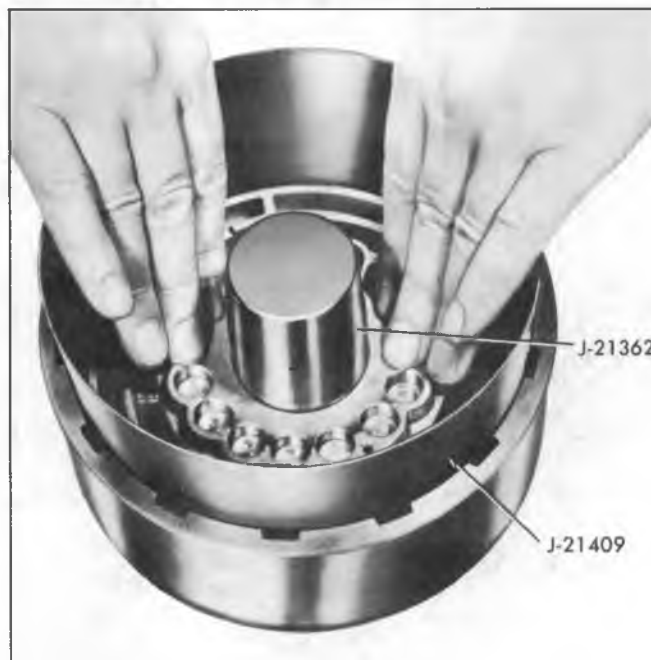

Fig. 88T—Installing Direct Clutch Piston
4. Place seal protectors, Tools J-21362 Inner, J-21409 Outer, over hub and clutch housing and install clutch piston, with a rotating motion (fig. 88T).
5. Install sixteen (16) springs into piston.